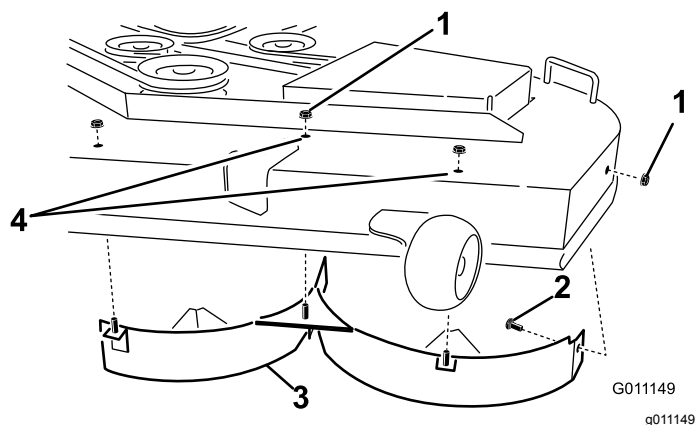

Figure 33
6. Remove the three locknuts (5/16 inch) secured to the welded posts of the left baffle on the top of the mower deck at the center, left of center and left positions (Figure 33). Remove the carriage bolt and locknut on the side wall of the mower deck securing the left baffle to the deck.
7. Remove the left baffle from the mower deck as shown in Figure 33.
8. Locate the two bolts in loose parts and use the existing locknuts. Install these fasteners into the holes shown in Figure 33 on the mower deck to prevent flying debris. Install the bolt up, through the underside of the deck and use an existing locknut to secure from the topside.